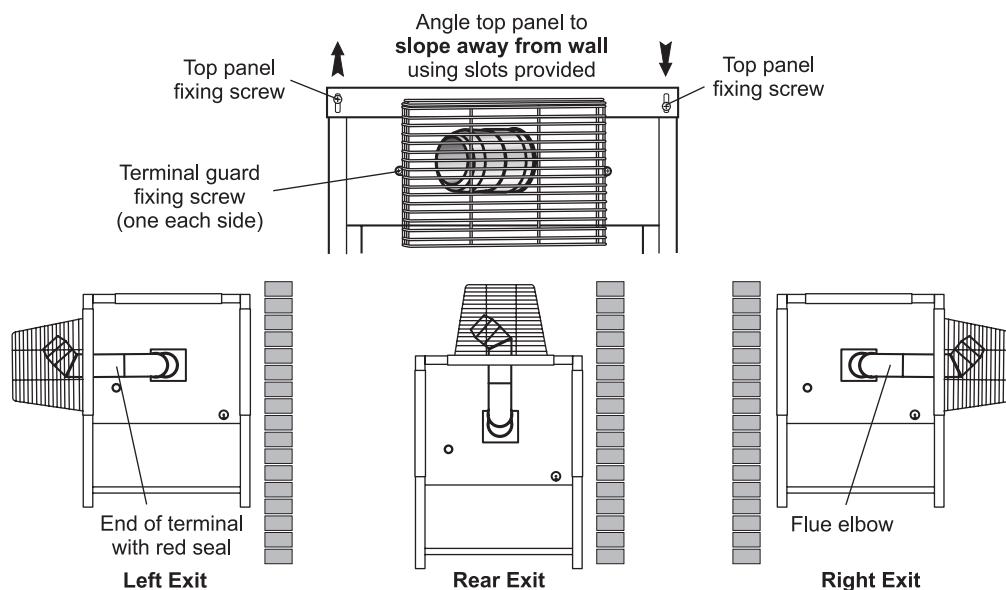

Fig. 15
- 9 The top panel of the casing has been designed so that it may be fitted to create a slight slope away from the side positioned against the wall. To tilt the top panel, loosen the four top panel casing screws, one at each corner and push down on the side furthest from the wall. Tighten the screws. See Fig. 15.